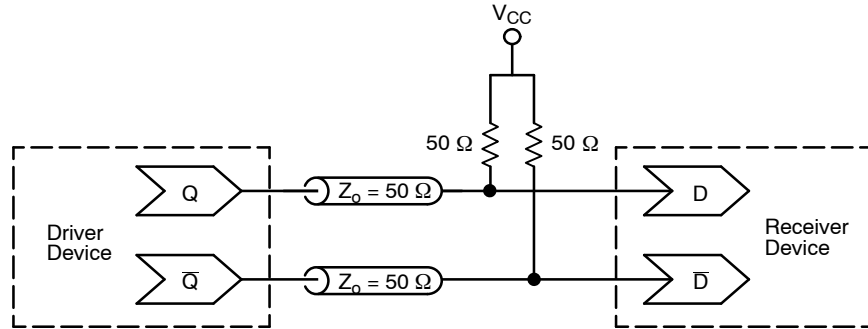

Figure 14. Typical Termination for Output Driver and Device Evaluation
1. CML outputs require  $50 \Omega$  receiver termination resistors to  $V_{CC}$  for proper operation. See Figure 14.